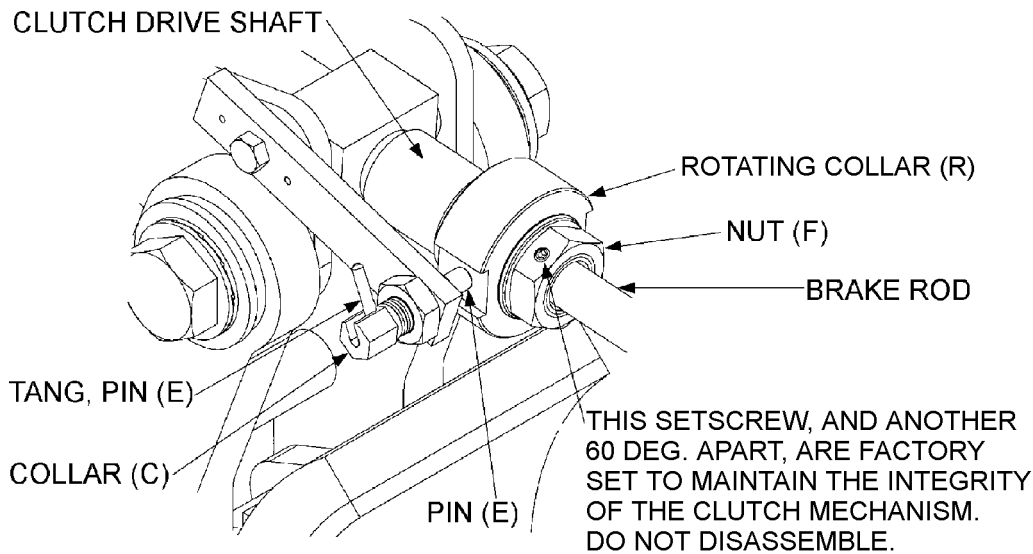

Figure 2A
4.12.(a): A retractible pin mounted on the brake lever, oscillates within a slot in the (AA) mechanism. (See Fig. 2A)
6.3.(c).(i): To manually release the brake: Refer to Fig. 2A, withdraw drive pin (E), then carefully rotate the mechanism by hand to increase the brake rod length and, at the same time, reduce the reserve stroke until the piston rod is no longer visible. Continue adjustment until there is sufficient shoe/wheel clearance.
6.3.(c).(ii): To manually apply the brake: Refer to Fig. 2A and withdraw drive pin (E), then rotate the mechanism by hand to decrease the brake rod length until the linings contact the wheel and the brake lever begins to rise. Proceed to "Actuator Stroke Adjustment".
6.4.(d).(i): To make initial adjustment before engaging the auto adjust (AA), refer to Fig. 2A and withdraw pin (E). Rotate the mechanism by hand to decrease the brake rod length until the linings contact the wheel and the brake lever begins to rise Continue adjustment until the required reserve stroke is about 1/8" less than specified. Re-engage pin (E) allowing the (AA) mechanism to complete the final stage of the adjustment process. This will verify that the mechanism is operating correctly.
! The two set screws used to lock nut (F), see Fig. 2A, to the clutch drive shaft, are factory set. Do not loosen these set screws or change the position of nut (F) with respect to the assembly. Failure to observe this warning can cause the automatic adjustment feature to become inoperative. This can lead to loss of load control and result in damage, injury or death.
! Automatically adjusting brakes use a one-way clutch to adjust the brake shoes. When looking on the end of nut (F), see Fig. 2A, the nut can only rotate clockwise and is prevented from moving counter-clockwise. Never disassemble this clutch. Incorrect re-assembly will render the auto-adjust feature inoperative. This can lead to loss of control resulting in damage, injury or death.